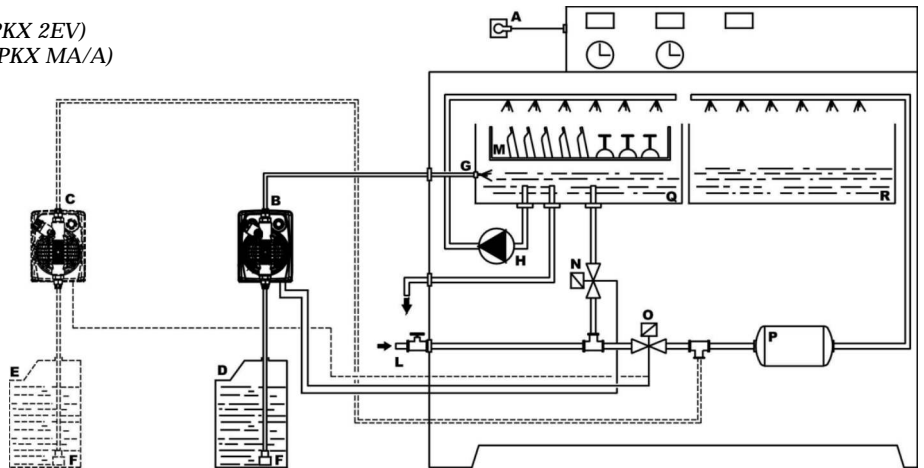

Fig. 13
5.4 - TYPICAL INSTALLATION OF TUNNEL DISHWASHER WITH TWO SOLENOID VALVES (Fig. 13)